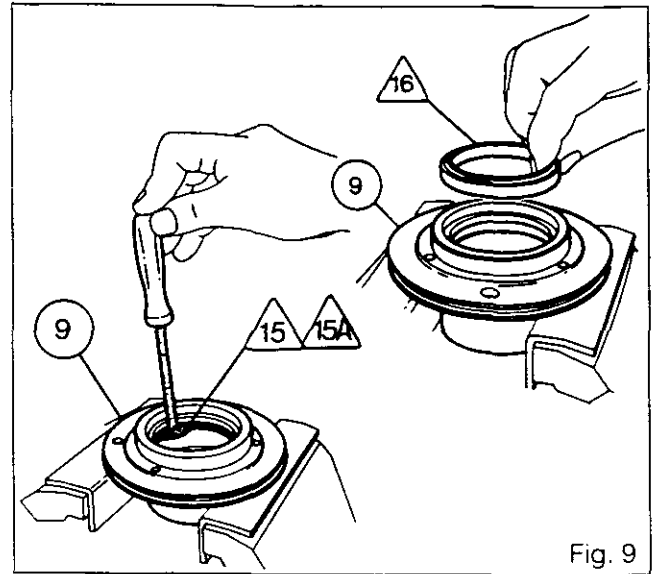

Fig. 9
- on the release bearing carrier (9): the scraper ring /16\, the seal /15\ and the "O" ring /15A\ (Fig.9).
**Note:** To remove the seals and "O" rings, use a suitably protected screwdriver (Fig.9). The bores and grooves of the parts must be free from scoring and damage.